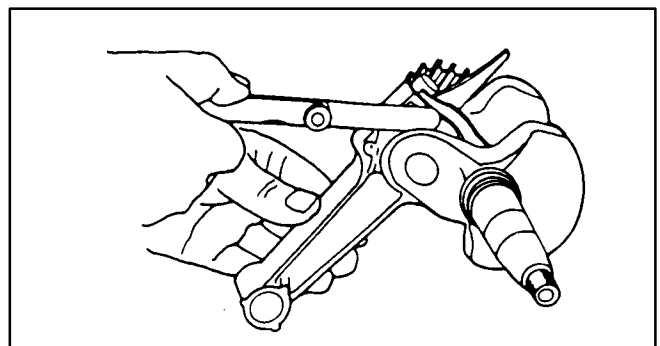

FIGURE 9-31. SIDE CLEARANCE OF CONNECTING ROD ON CRANK PIN
2. Measure the side clearance with a feeler gauge (Figure 9-31).